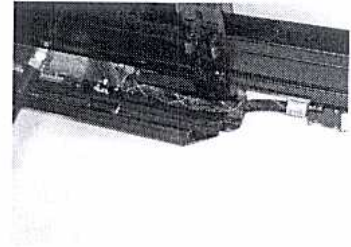

fig 7
2. Place the PJ-PPT-PJ assembly into the bottom of the NYBF panel so the assembly is below the NYBF box. (see fig 7). Connect the PJs to the adjacent panels as usual.